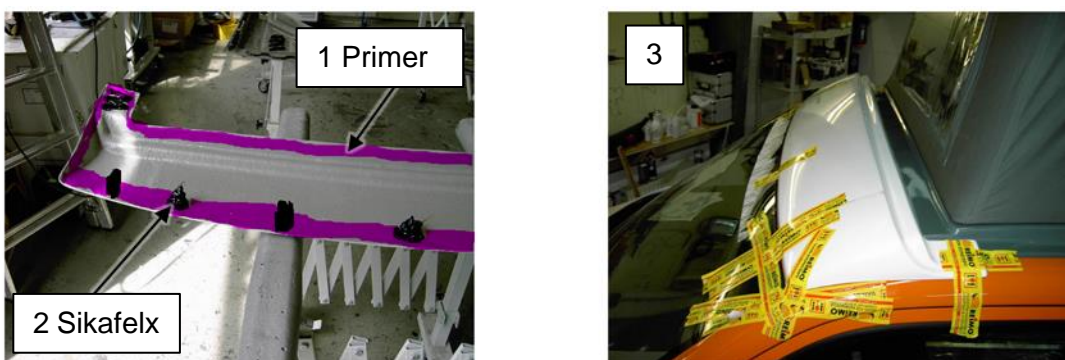

Fig. 6-1: Gluing the front spoiler (similar picture)
- Apply primer in the gluing area of the front spoiler (see Fig. 6-1, 1) as well as the vehicle
- Apply generous blobs of Sikaflex (2) to the front spoiler above the windscreen.
- Position the spoiler on the vehicle and fix it with adhesive tape (3). This must not be forcibly clamped in order to avoid cracks.